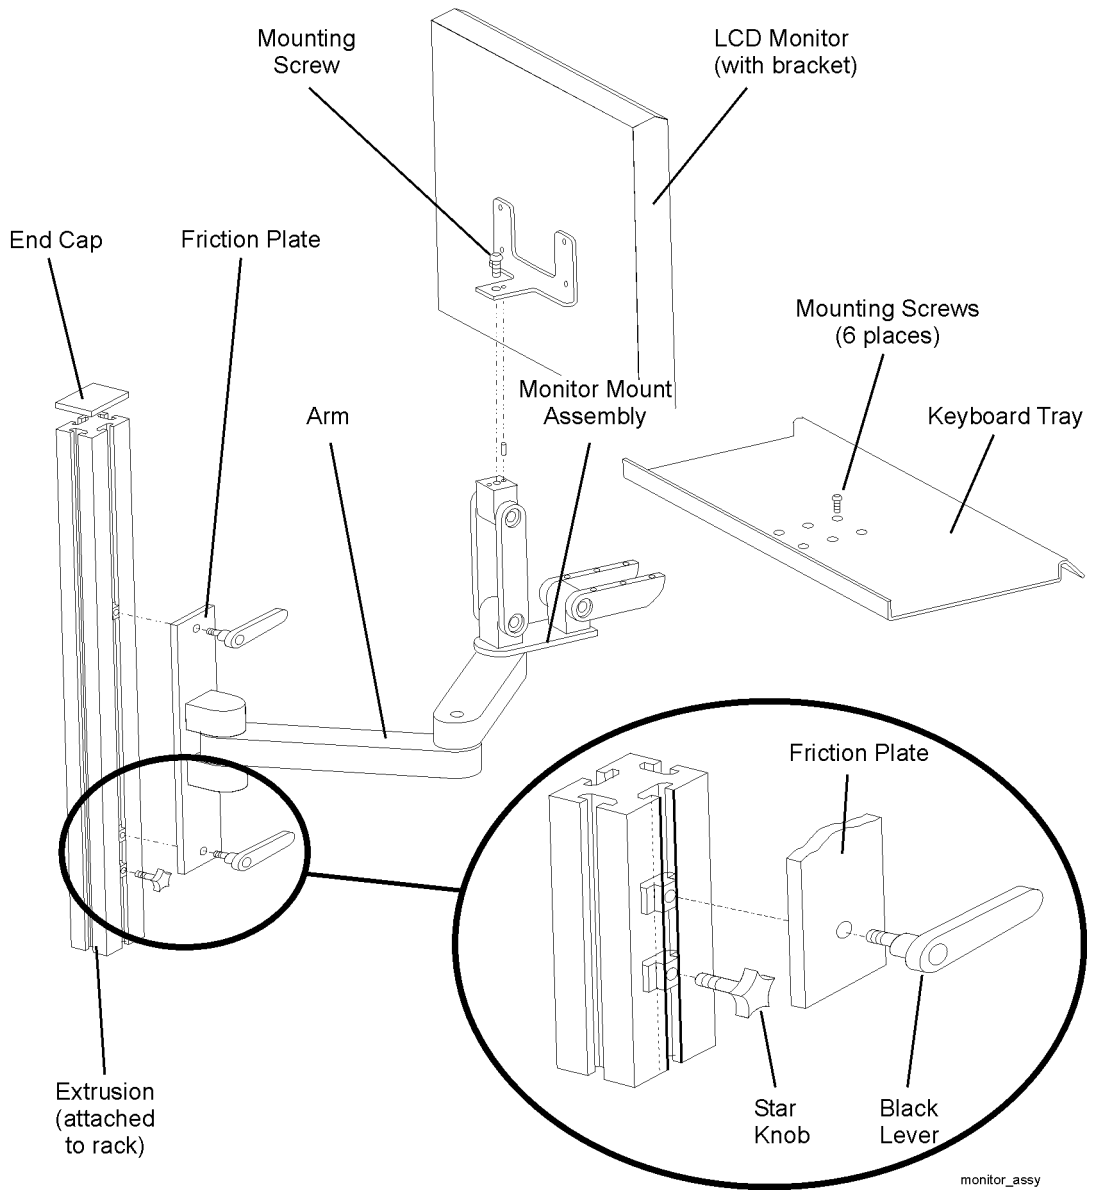

Figure 1-2. Monitor Mount Assembly
Refer to Figure 1-2 on page 1-8 for the following procedure.
- 1** Attach the LCD monitor to the monitor mount assembly with the provided mounting screw. Tighten with a 7/32" Allen wrench. Make sure the monitor is properly oriented with the alignment pin, then tighten with a 7/32" Allen wrench. Refer to Figure 1-2 on page 1-8.